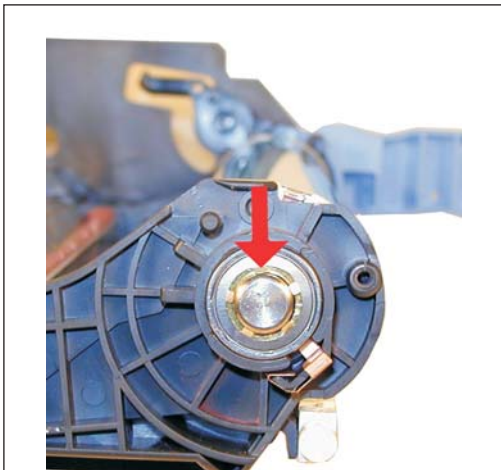

Figure 51
27) Install the metal washer and the retaining ring. See Figure 51